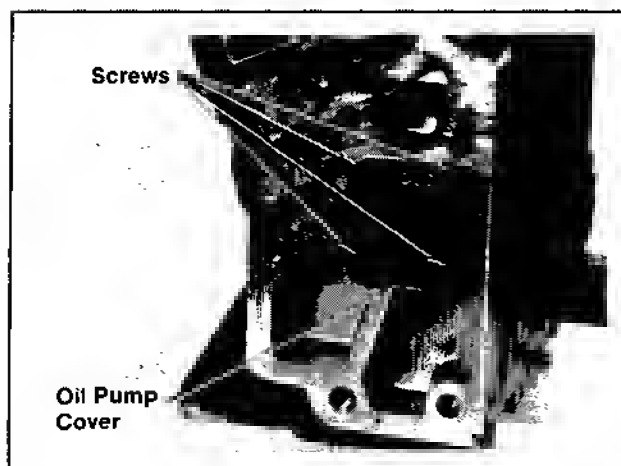

Figure 9-39. Removing Oil Pump Cover.
1. Remove the self-tapping screws, cover, and pump rotors. Refer to Figures 9-39 and 9-40.